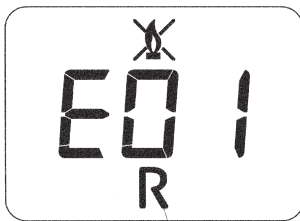

Figure 3
**IMPORTANT:** Regularly check that the pressure displayed on the pressure gauge is 0.7 - 1.5 bar, with the boiler cold. In case of overpressure, open the boiler drain tap. In case of insufficient temperature, open the boiler filling tap (figure 3). Open the tap very slowly in order to vent the air.